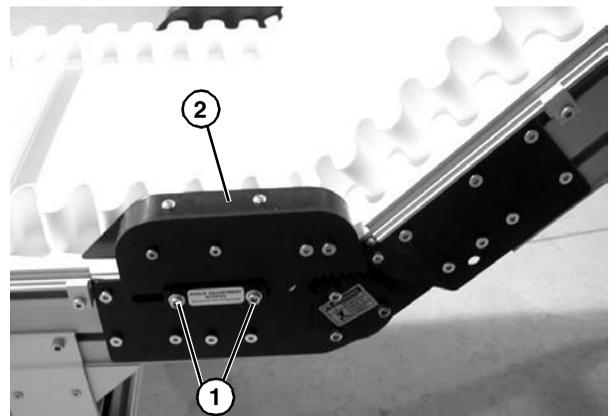

Figure 24
- If equipped, remove screws (Figure 24, item 1) and remove lower knuckle return roller assembly (Figure 24, item 2) on both sides of conveyor, note the position of the meshing teeth.